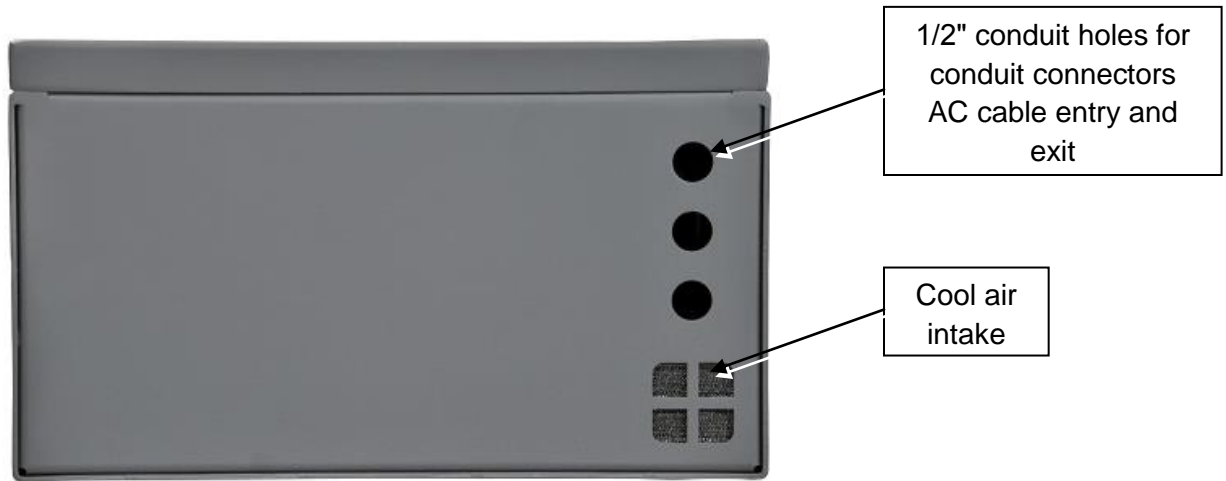

Figure 11: Cable Entry and Exit Ports in Bottom of Cabinet
- 5.12** If bringing in cable through a conduit up the pole, make sure that the trade size of the conduit is ½" and not larger. Larger conduit will not fit through the 1/2" conduit holes for cable entry which are on the bottom of the unit, see Figure 11. Cool air intake vent is also located on the bottom.